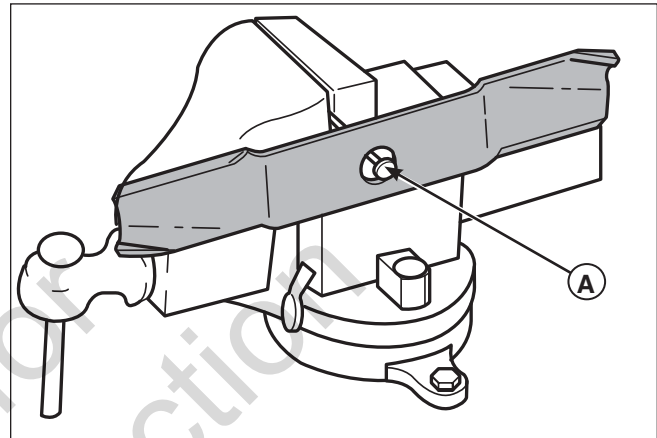

Figure 27. Balancing the Mower Blade
2. See Figure 27. Put the mower blade on a nail in a vise and turn the blade to the horizontal position.